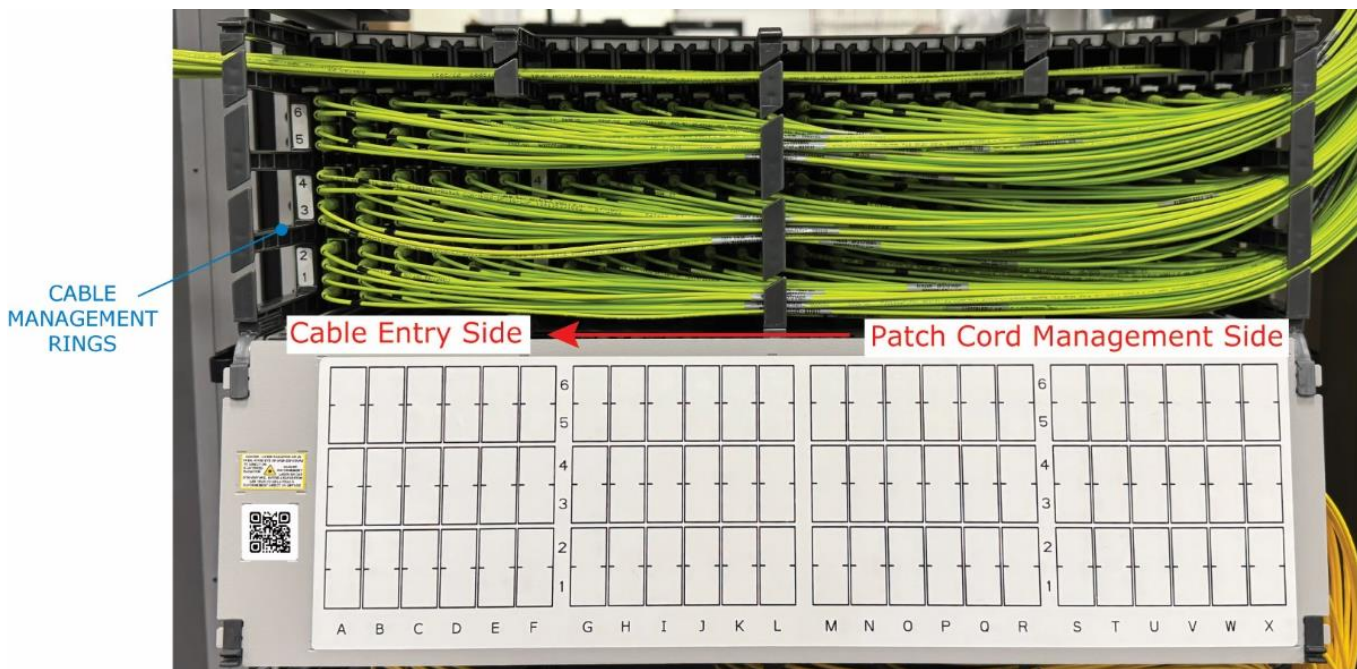

Figure 26. Example of Fully-Patched HCM Panel
- PATCH CORDS – For HCM Panels, it is critical to begin patching on the Patch Cord Management side of the panel and work towards the Cable Entry side. See Figure 26.
- PATCH CORDS – For HCM Panels, route patch cords across the front of the panel, through the cable management rings, and into the Patch Cord Management side of the frame. See Figure 26.